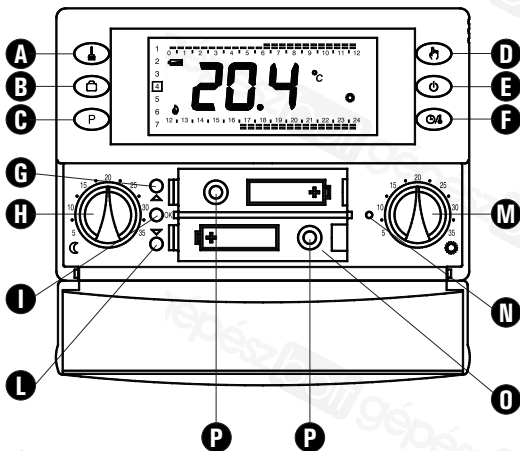

Fig. 1
6. Insert the batteries in the battery compartment (0 in Fig. 1); see paragraph 'HOW TO INSERT/REPLACE THE BATTERIES'.
1. Open the flap of the battery compartment (Fig. 1).